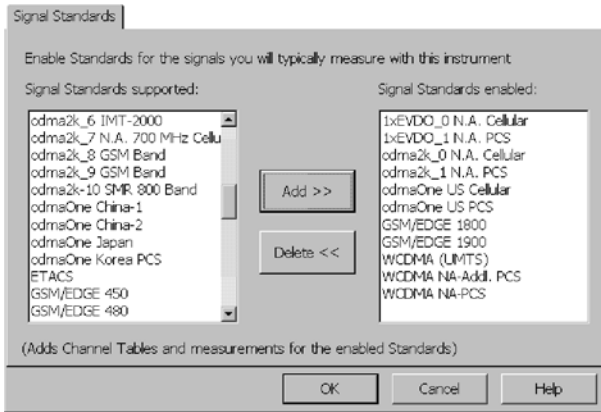

Figure 2-13: The Signal Standards tab
2. Tap the **Signal Standards** tab. See Figure 2-13.